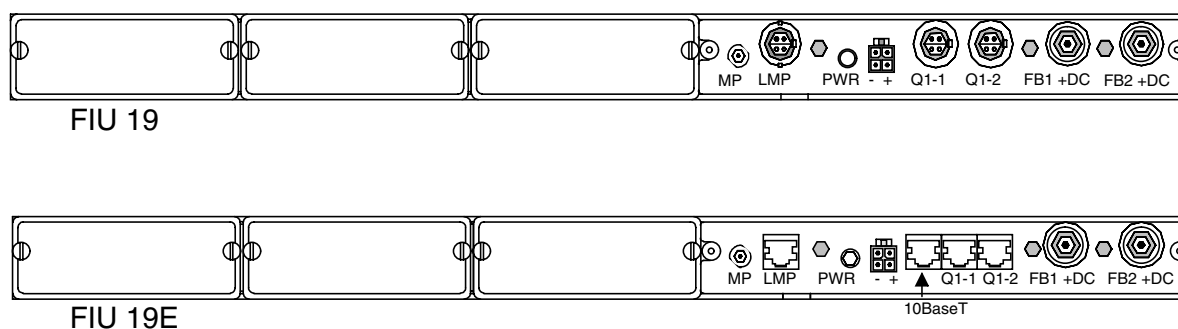

Figure 22. Interfaces of the main units
FIU 19 (E) has the following items marked on the front panel (Figure 22):